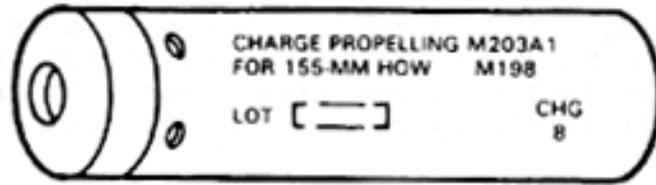

Figure 2-28. Propelling charge, M203A1
h. **Propelling Charge, M203A1.** The M203A1 propelling charge, (Figure 2-28) like the M203, is a charge a propelling charge developed for extended range in long-tube (M198) 155mm howitzers. This charge consists of one increment of stick propellant and a base igniter pad encased in a full length rigid combustible cartridge case. The charge also contains a wear reducing additive and a lead foil decoppering agent. The M203A1 charge 8 is ballistically equivalent to the M203 red bag charge 8.